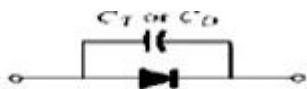

Figure 1.38 Including the effect of the transition or diffusion capacitance on the semiconductor diode.
"shorting" path. In the p-n semiconductor diode, there are two capacitive effects to be considered. In the reverse-bias region we have the transition- or depletion region capacitance (CT), while in the forward-bias region we have the diffusion (CD) or storage capacitance. Recall that the basic equation for the capacitance of a parallel-plate capacitor is defined by $C = \epsilon A/d$, where ϵ is the permittivity of the dielectric (insulator) between the plates of area A separated by a distance d. In the reverse-, bias region there is a depletion region (free of carriers) that behaves essentially like an insulator between the layers of opposite charge. Since the depletion width (d) will increase with increased reverse-bias potential, the resulting transition capacitance will decrease. The fact that the capacitance is dependent on the applied reverse-bias potential has application in a number of electronic systems. Although the effect described above will also be present in the forward-bias region, it is over shadowed by a capacitance effect directly dependent on the rate at which charge is injected into the regions just outside the depletion region. The capacitive effects described above are represented by a capacitor in parallel with the ideal diode, as shown in Fig. 1.38. For low- or mid-frequency applications (except in the power area), however, the capacitor is normally not included in the diode symbol.